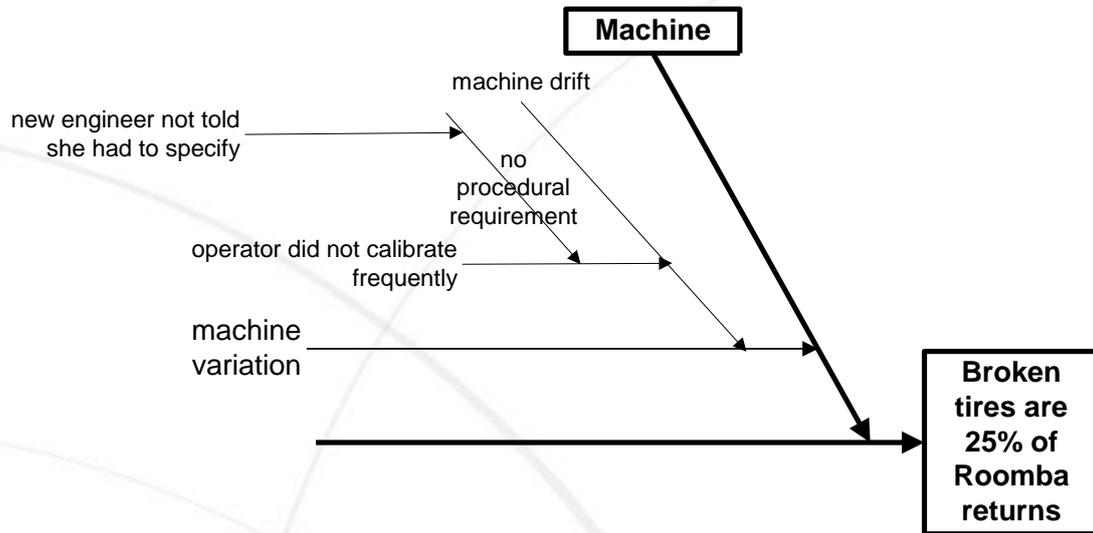

FIGURE 3. BREAKING DOWN CAUSES
- Go down 5 whys where possible. See Figure 3 as an example.